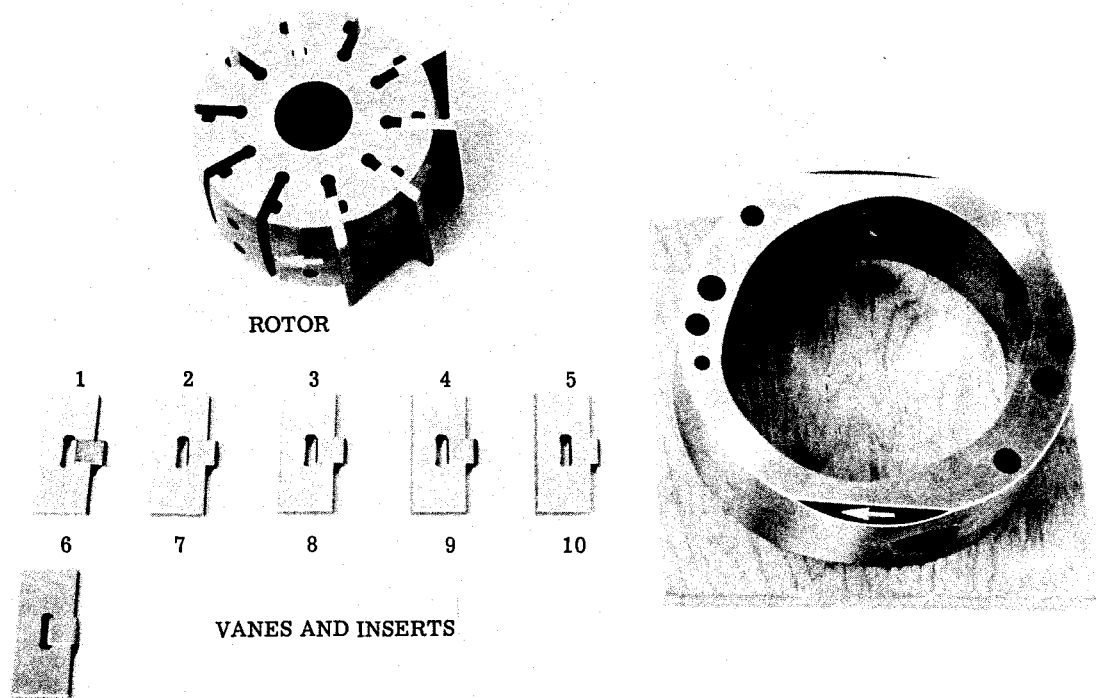

Figure 18 - Sequential removal of vanes from rotor.
Remove the cam ring from the rotor and vanes. Locate the arrow stamped into the rotor periphery. Remove the vanes and inserts in order, starting at the arrow. Keep them in order for inspection. (See figure 18).
c. For right hand rotation units, set the rotor on the flat wooden board with the arrow pointing right. (For left hand rotation the arrow should point left.) Assemble the vanes and inserts into the rotor in reverse order. (See figure 18). Make sure the sharp chamfer edge of each vane leads in the direction of rotation. All vanes must move freely in the rotor slots with no evidence of bind.